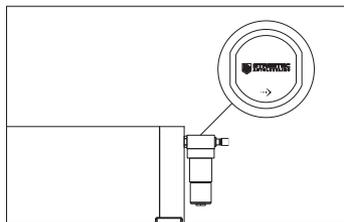

Abb. 7: Flow direction
1. Mount the water separator in the correct flow direction. The arrow on the water separator indicates the flow direction and must point from the tank to the valve block (Fig. 7). If you decide not to mount the filter directly on the tank, run the required hose from the tank to the water separator and the hose from the water separator with the appropriate connections to the valve block.